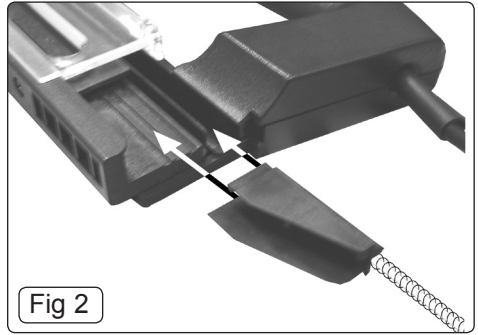

Fig 2
- 3.1.4 Once the staples/nails are loaded in the loading slot (with the points facing downwards towards the base) reinsert the loading spring (Fig 2), lining up the grooves and clip the release button back into place.